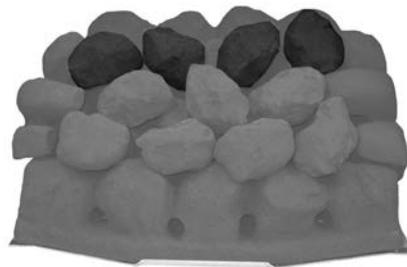

Fig. 26
7. Lay another row of four coals on the next row up, again making sure all the gaps are even (Fig. 26).